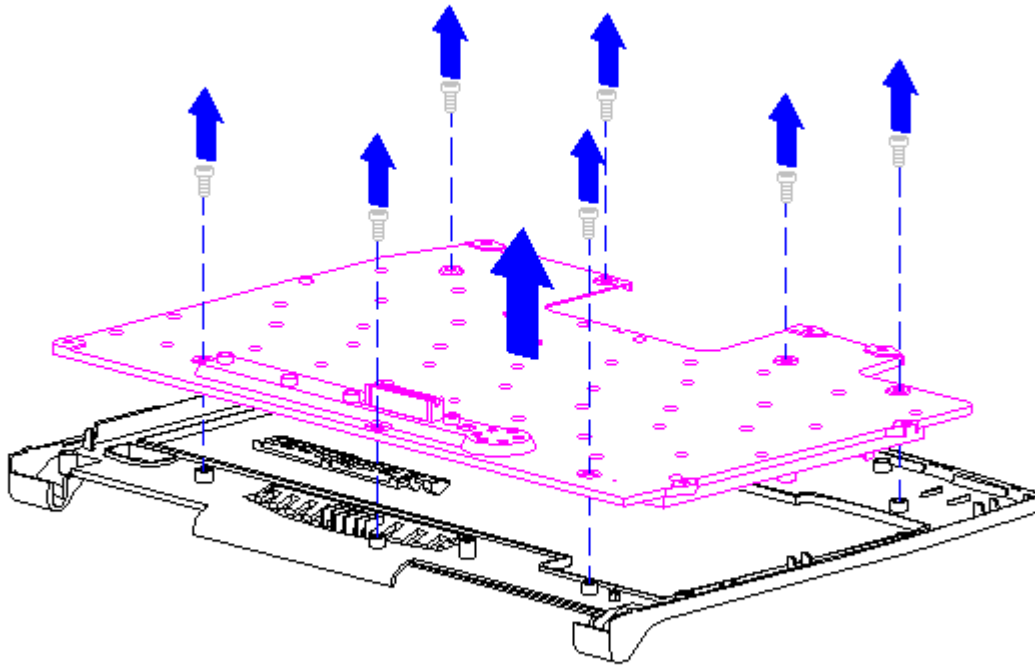

Figure 3-23. Removing the CPU Cover from the Keyboard (All Models)
4. Separate the CPU cover from the keyboard (Figure 3-23).